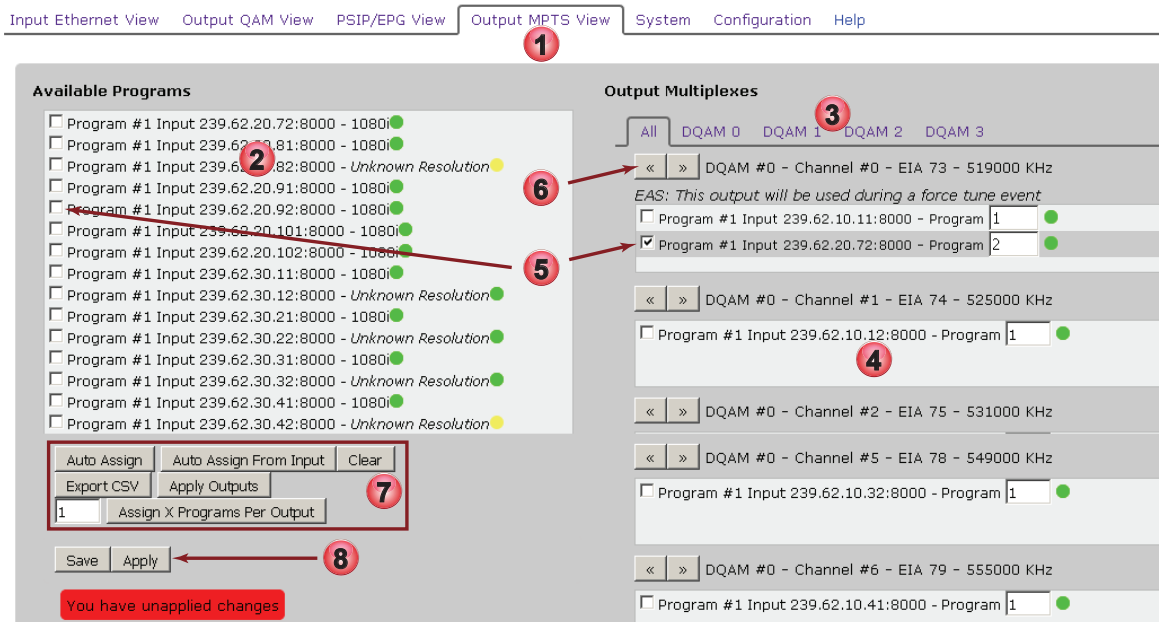

Figure 5-2: Output MPTS View - QAM Outputs
1. Click the **Output MPTS View** tab on your QAM output type Device to find this page, Figure 5-2.